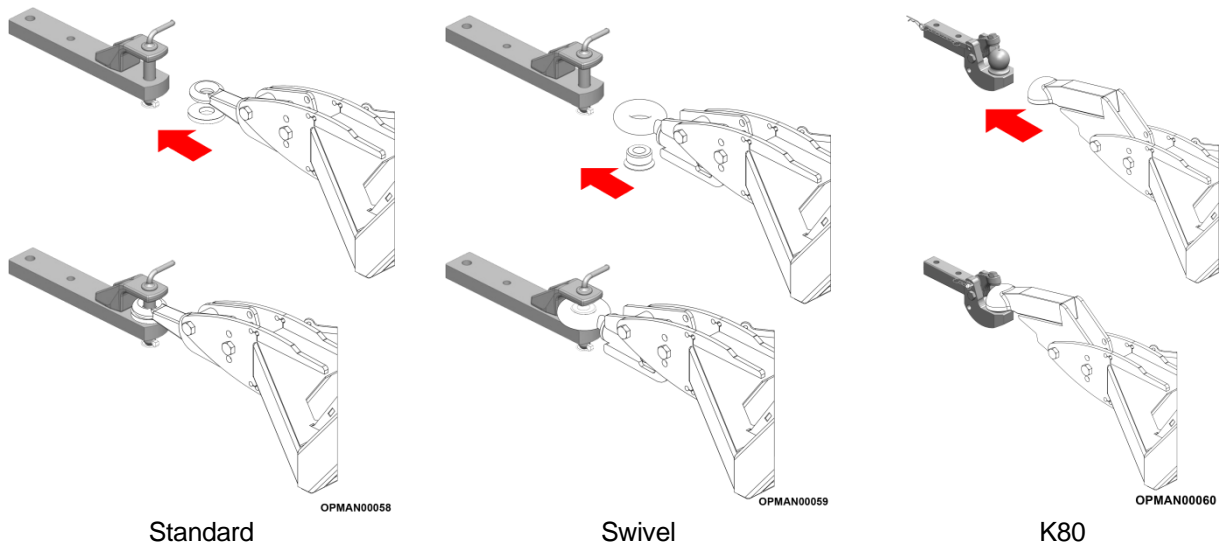

Figure 4.7 – Multicut Towing Eye Options
- 4.4.2.6 If the machine is fitted with either a standard or swivel towing eye, wear pads should be placed between the towing eye and the clevis hitch; see Figure 4.7.